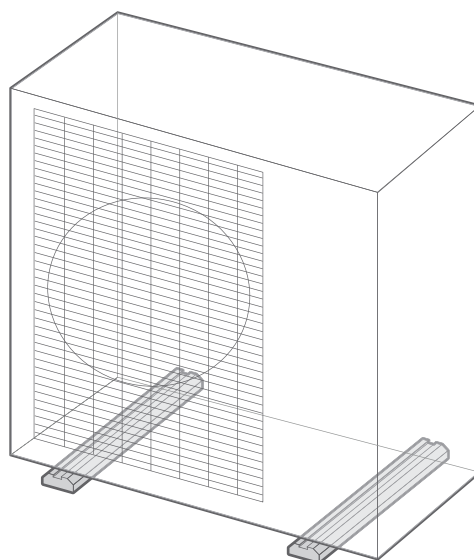

fig. 15 - Rubber floor mounts (optional)
- The appliance must be fully accessible for installation works and future maintenance works (fig. 15, page 17).